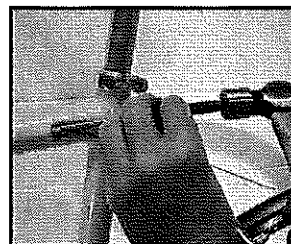

Fig. 23
6. Use a light steel hammer, and a round punch with a flat end, to lightly tap the ferrule into place (Fig. 23). Ensure that the ferrule follows a straight path into the hole, tapping around the edges as needed.